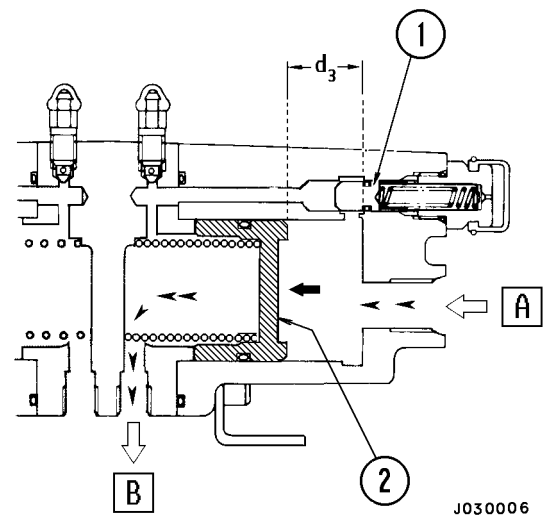

FIGURE 2-25. BRAKE PEDAL RELEASED
□ When brake pedal is released (Figure 2-25):